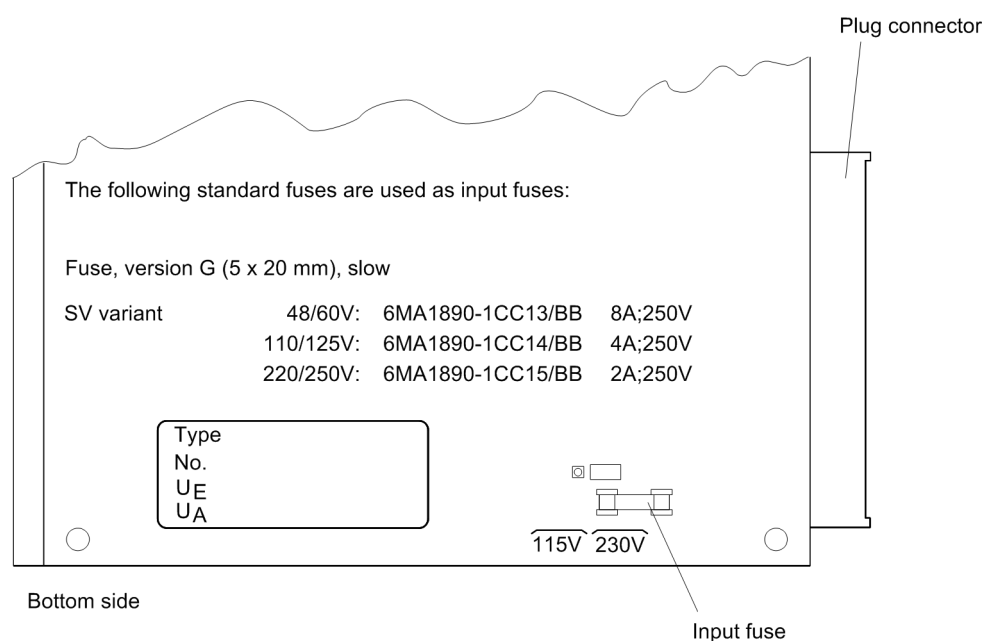
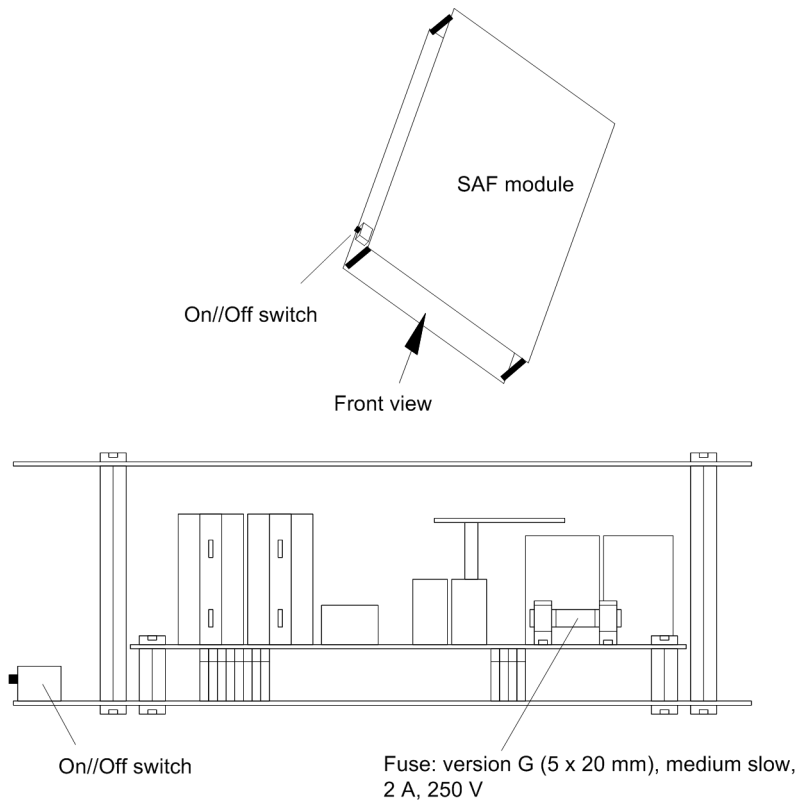

Figure 8-8 Location of the fine-wire fuse on the power supply module (SV) of the central unit
Figure 8-9 Location of the fine-wire fuse on the power supply module (SAF) of the bay unit 7SS523
The ratings of the required fuses can be found for the central unit in Figure 8-8, page 307, and for the bay units in Figure 8-9, page 308 or Figure A-12, page 357.
- ❑ Replace the fine-wire fuse. The location of the fine-wire fuse can be seen in Figure 8-8, page 307.
- ❑ After fastening the front panel, switch the device on. If the auxiliary voltage failure continues to be indicated, there must be a failure or short-circuit in the internal power supply. The power supply module (SV) should be sent to the factory.
- ❑ Replace the fine-wire fuse. The location of the fine-wire fuse can be seen in Figure 8-9, page 308 or Figure A-12, page 357.